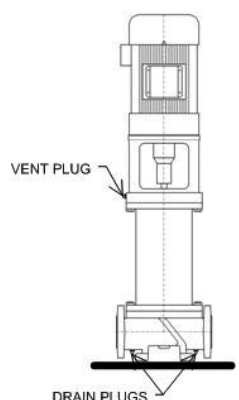

Figure 24: Vent/Drain Plug Locations
2. Drain the liquid from the pump by removing the lower drain plugs and the upper vent plug. See Figure 24.